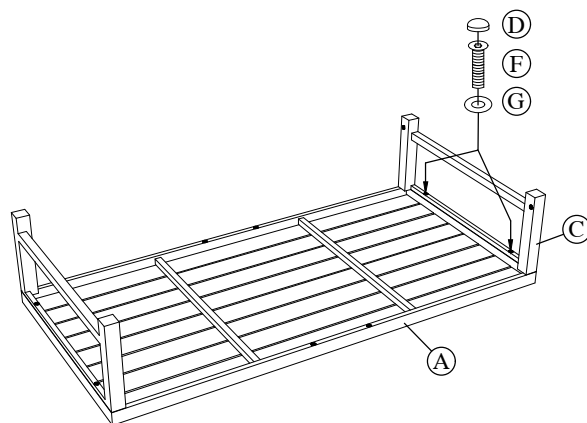

Figure 1
Step 2: Place the table top upside down on a flat, non-abrasive surface. Attach the table leg to the table top by using the 1/4"x30 mm bolts(F) and Ø6.5x1.0 mm washers(G) as shown in Figure 1. Guide the bolts through the holes in the table leg and table top. **Hand tighten 2-3 revolutions only.** Repeat for the other sides.